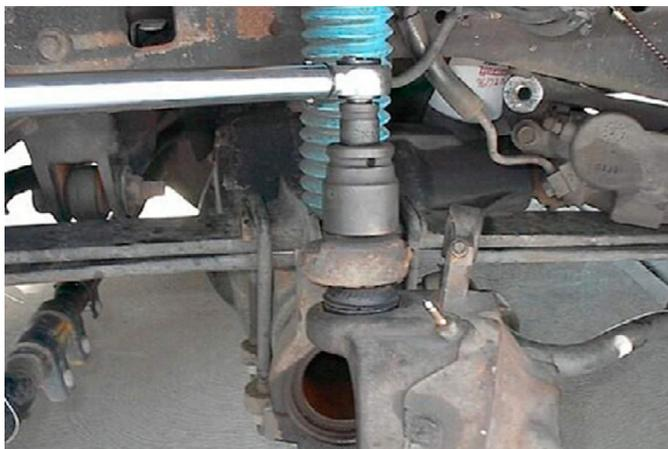

Figure 8
Step 8 – Tighten the UPPER ball joint nut to 94 Nm (69 ft. lbs.) (Figure 8). If necessary, tighten the nut until the cotter pin can be installed. Install the cotter pin.